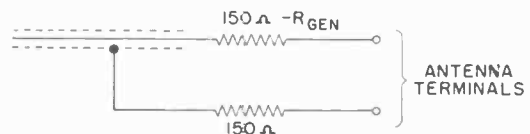

**Fig. 5. Connection of the oscilloscope**
6. Remove bias battery. Connect a sweep generator to the converter and an oscilloscope across contrast control R32 (fig. 5). Set R32 at maximum.